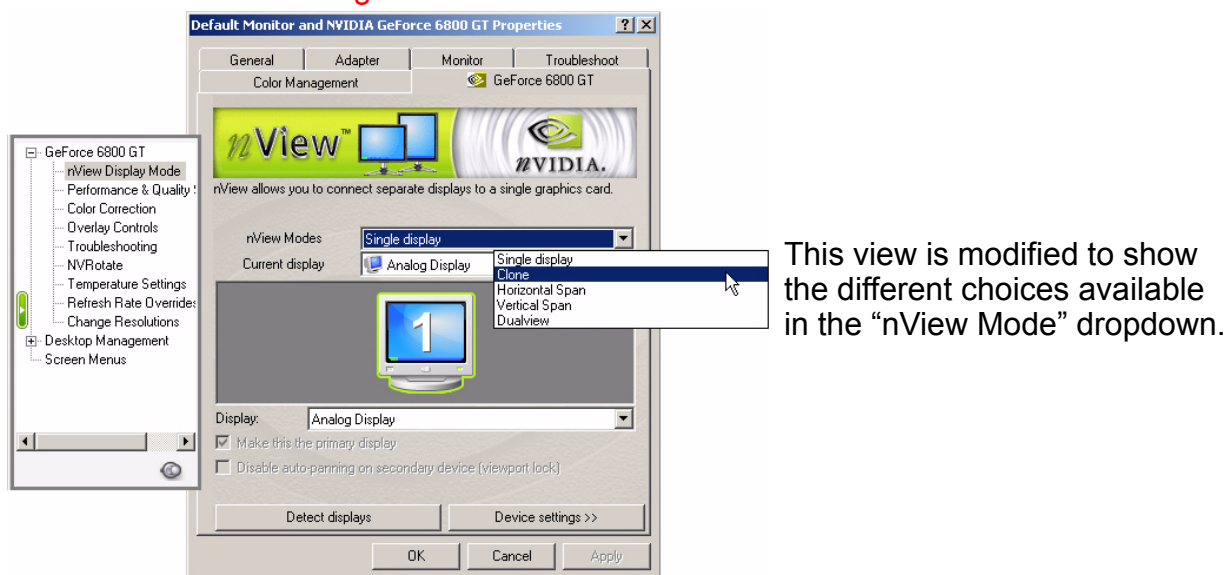

Figure 4-4. Option for “cloning” VGA display on TV monitor
8. In the submenu, click on **nView Display Mode**. The menu changes as shown in **Figure 4-4**.